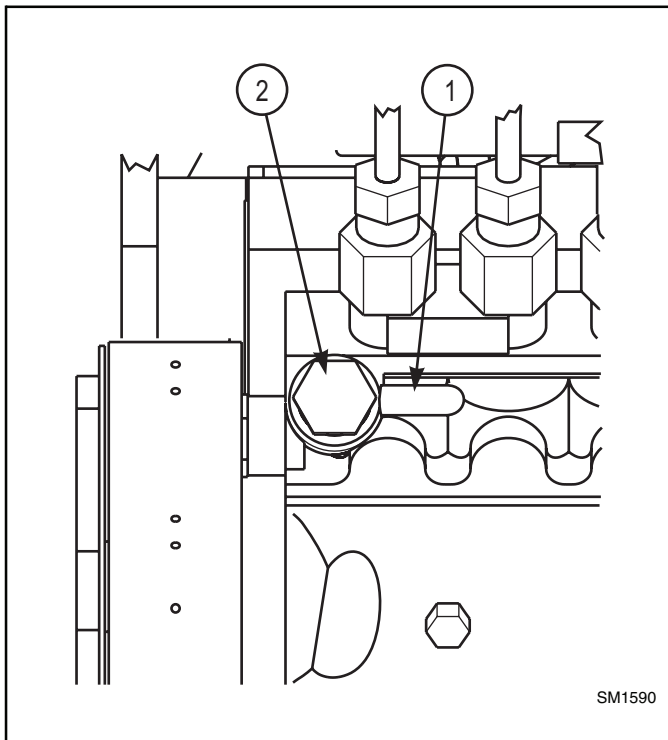
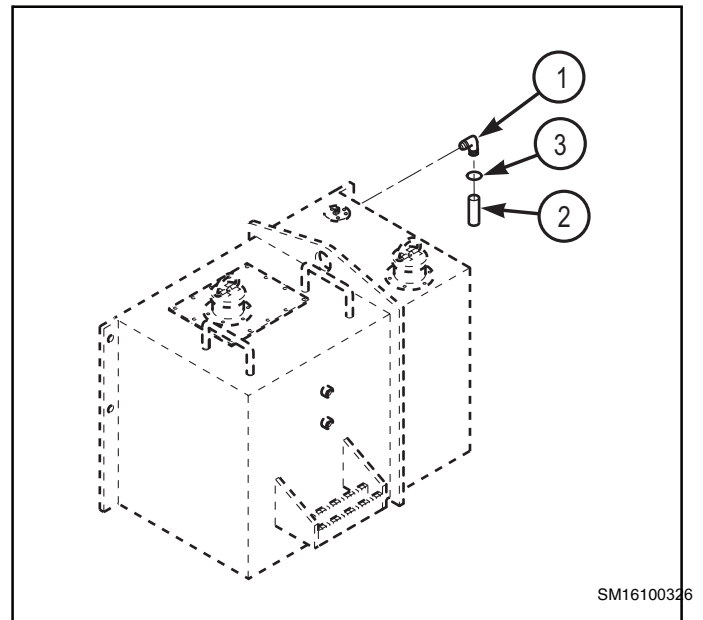

Figure 8
Figure 10
- Remove plastic cap (1) from banjo fitting (2) on new engine block. Discard plastic cap. (Figure 8).
- Loosen banjo fitting (2) and position it at 45 degree angle. Tighten fitting. (Figure 8).
INSTALLATION (Figure 10)
- Apply sealing compound on threads of elbow # 8430039 (1) (From the kit) and install on vehicle fuel tank. (Figure 10).
- (From the kit) position fuel drain line # 6620181(2) on vehicle. (Figure 10).
- Install fuel drain line (2) (Figure 10) on banjo fitting (2) see removal (Figure 8) and elbow (1) with 2 clamp # 8405009 (3) (From the kit). (Figure 10).